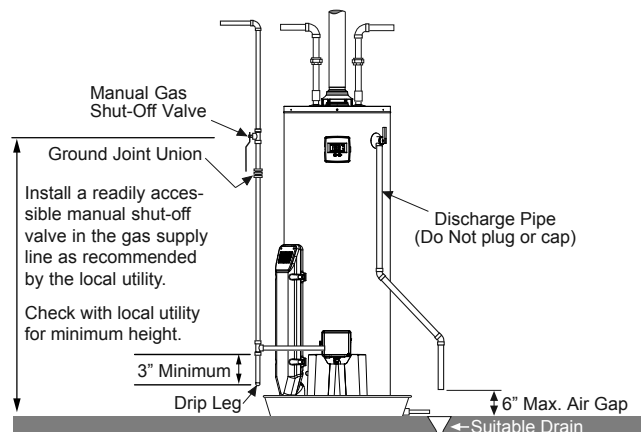

FIGURE 12.
**NOTE:** Use pipe joint compound or teflon tape marked as being resistant to the action of petroleum gases (See Figure 12.)